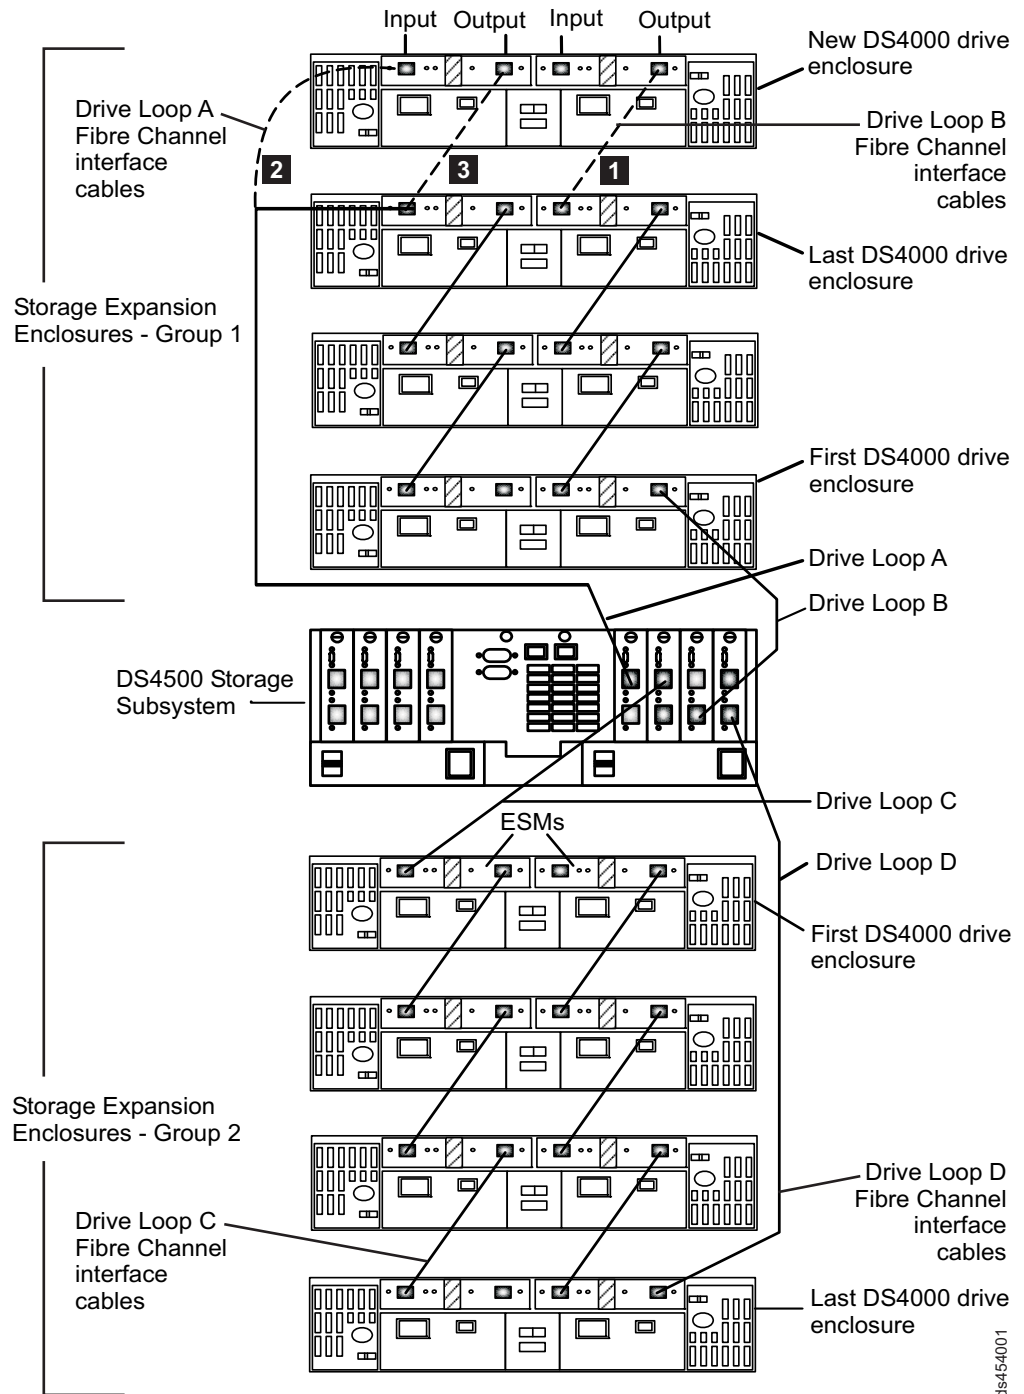

Figure 45. Cabling the EXP100 to two redundant loops
Figure 45 on page 71 shows an example of a DS4500 configured with four drive loops. Drive loops A and B form one redundant Fibre Channel loop. Drive loops C and D form the second redundant Fibre Channel loop.
The numbers corresponding to the dashed lines in Figure 45 show how to add a new EXP100 to an existing DS4500 configuration with EXP100s attached, as described in the following steps.
To add the new EXP100 shown in Figure 45, perform the following steps:
2. Make the Fibre Channel connection marked ( **1** ) in Figure 45 (drive loop B).
4. Make the Fibre Channel connection marked ( **2** ) in Figure 45 on page 71.
5. Make the Fibre Channel connection marked ( **3** ) in Figure 45 on page 71 (drive loop A).